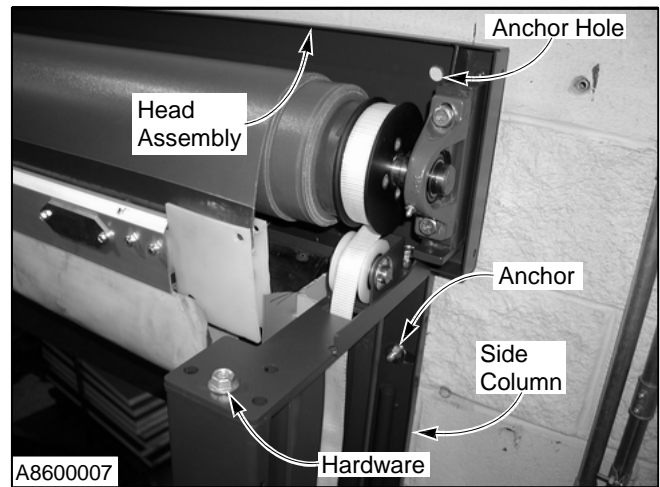

Figure 14
- Attach each side column to the head assembly with hardware provided in the small parts carton. (See Figure 14.)